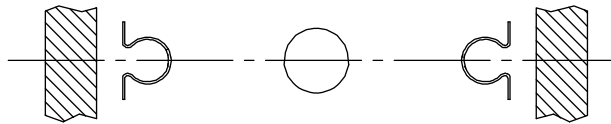

Figure 22 - Rail and Jack Centerline
1. Compare the centerline of the rails and the jack hole to the hoistway layout. See Figure 22.